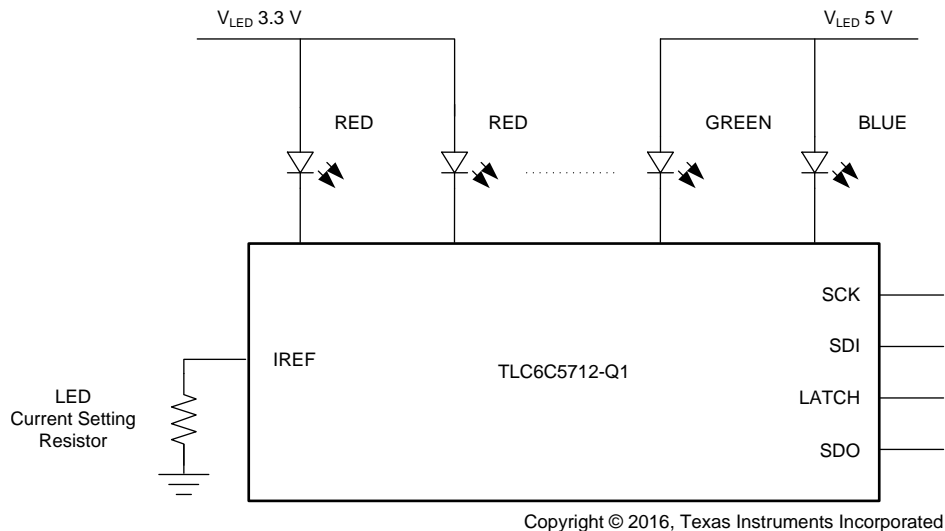

Figure 7. Application With Two Separate LED-Supply Rails
- Figure 7 shows a solution with two separate voltage rails: one for blue and green LEDs and one for red LEDs which can be derived from a voltage regulator. The voltage rails are tailored to the type of LEDs they drive and the wasted power is significantly reduced as well as the heat produced.